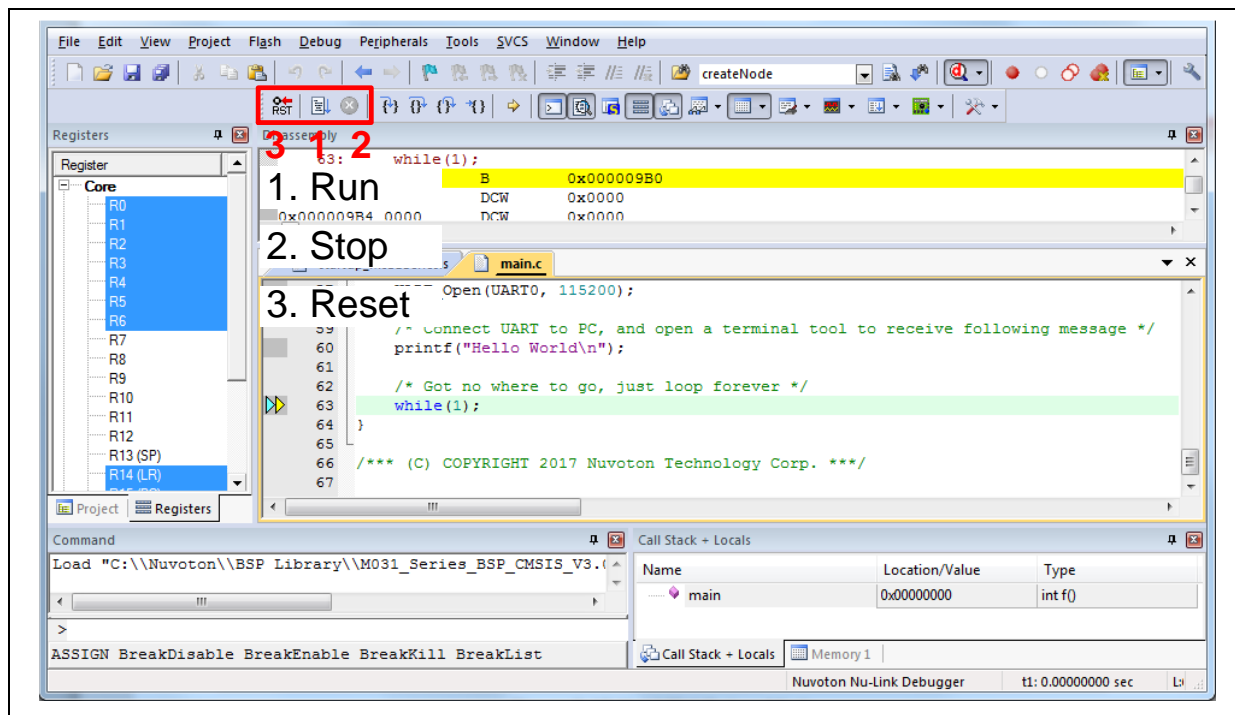

Figure 4-13 Keil C51 Debug Mode
4. Figure 4-13 shows the debug mode under Keil C51. Click "Run" and the debug message will be